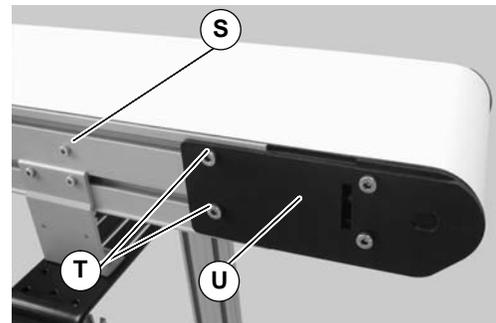
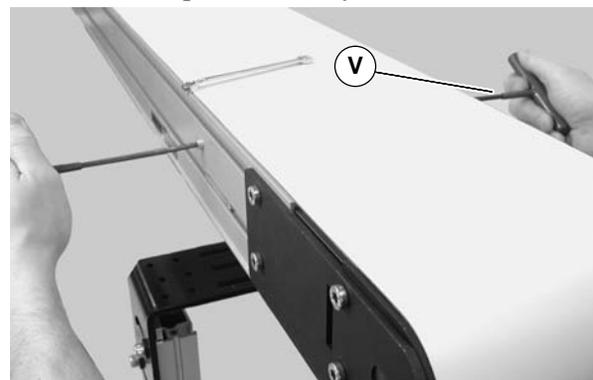

Figure 26
Figure 27
- On tension end of the conveyor, identified by the pinion locking screw (S of Figure 26), loosen the two tail clamp bolts (T), on both sides of conveyor.
- With 5mm hex wrench, hold pinion torque screw (V of Figure 27). Loosen the pinion locking screw (S of Figure 26) and turn the pinion torque screw (V) to extend head plate assembly.
4. After adjusting proper tensioning, tighten the pinion locking screw (S of Figure 26) to 69 in-lbs (7.8 N-m), and tighten tail clamp bolts (T of Figure 26) on both sides of conveyor to 146 in-lb (16.5 N-m).
1. Ensure tensioning racks are extended and touching the idler pulley headplates: loosen the pinion locking screw (S of Figure 26) and rotate the pinion torque screw (V of Figure 27) clockwise until contact with the head plate is made, then tighten the pinion locking screw (S) to 69 in-lbs (7.8 N-m)